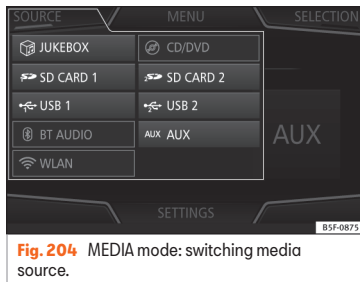

Fig. 204 MEDIA mode: switching media source.
- From the *Media* main menu, press the **SOURCE** function button **»»** **Fig. 204** and select the desired media source.